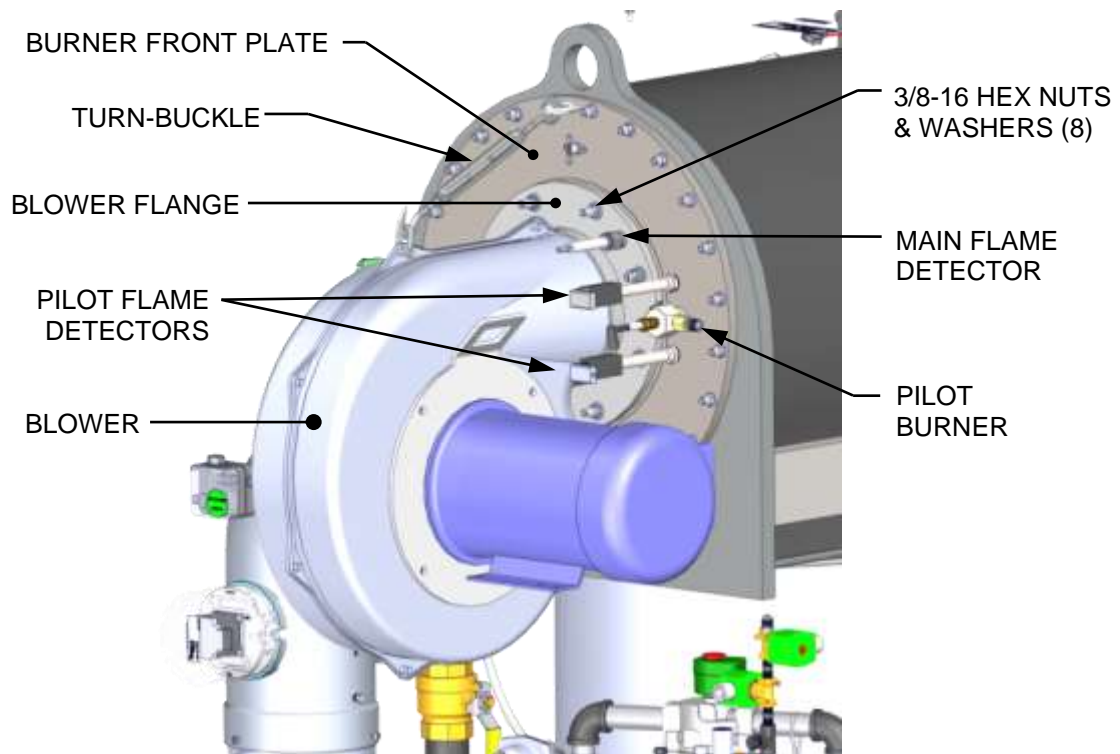
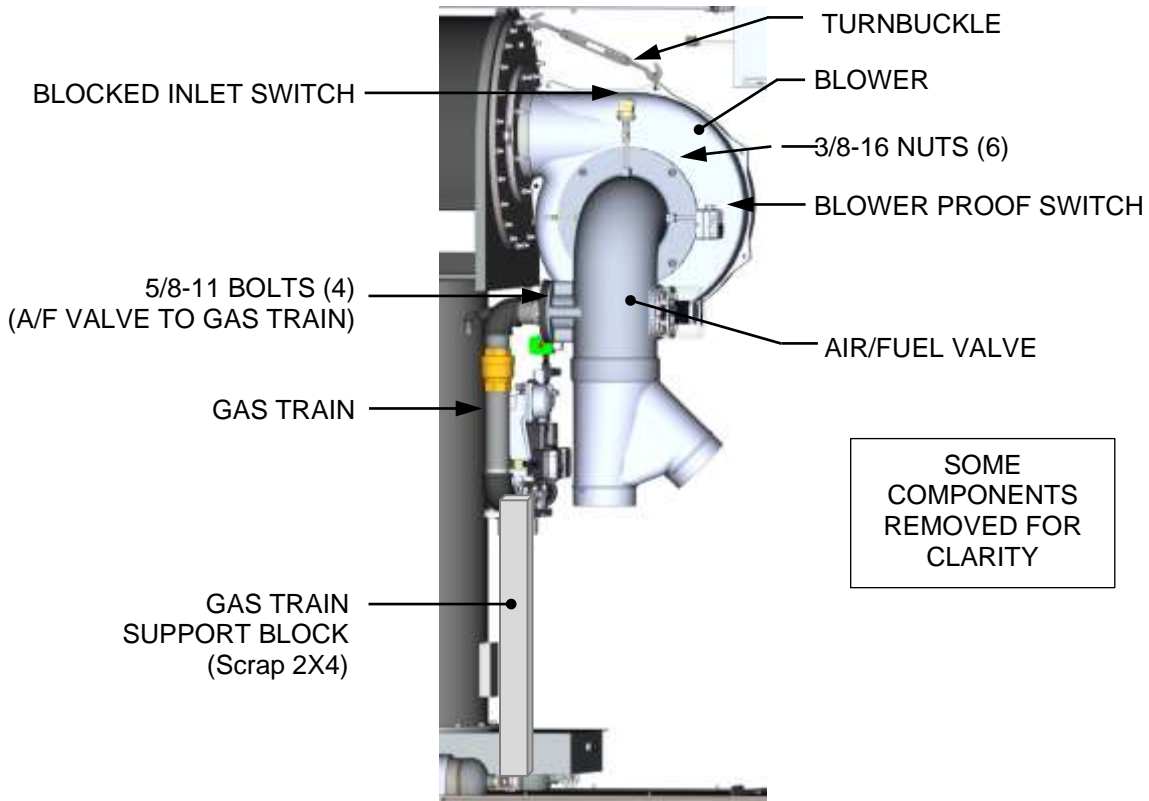

Figure 4-5a: Burner Assembly Mounting Details – Right-Front View
Figure 4-5b: Burner Assembly Mounting Details – Left Side View
<ol style="list-style-type: none"> 1. Set the C-More Controller's ON/OFF switch to the OFF position. Disconnect AC power from the unit and turn off the gas supply. 2. Remove the front panel, top panel and front side panels from the unit by grasping and lifting straight up and outward. This will expose the blower assembly for removal. 3. Remove the harnesses attached to the C-More Controller, remove 4 nuts (2 above and 2 below) from the C-More bracket and then remove the C-More and set it aside. 4. Disconnect the lead wire from the Main Flame Detector installed on the Blower Flange (Figure 4-1a, above). 5. Remove the Main Flame Detector from the Blower Flange. 6. Remove the Pilot sensors and observation ports from the Burner Plate (Figure 4-5a, below). 7. Disconnect the cable from the Pilot Burner by pulling straight out. 8. Using a 1/2" open-end wrench, disconnect the Pilot gas line from the reducer fitting and elbow shown in Figure 4-1a. Remove the reducer fitting and then the elbow from the Pilot Burner. 9. Next, loosen and remove the Pilot Burner from the Burner Plate using a 1-1/2" open-end wrench. 10. Remove the blower support turn-buckle (Figure 4-5a or Figure 4-5b). 11. Attach a hoist rig capable of lifting at least 300 pounds to the lifting lug on the blower fan housing. The Blower assembly weighs approximately 150-200 lbs. depending on which blower motor is installed. 12. Remove the two inlet air filters from the galvanized WYE-duct. 13. Disconnect the wires from the Blower Proof and Blocked Inlet switches (Figure 4-5b). 14. Disconnect the Molex connector from the temp sensor. 15. Place a support block of any appropriate material (such as a scrap 2X4 cut to length) under the gas train (see Figure 4-5b), and then remove the four 5/8-11 bolts & washers connecting the gas train to the Air/Fuel valve. 16. Remove the 6 3/8-16 nuts attaching the Air/Fuel valve to the Blower and then pull the Air/Fuel valve off and set it aside. 17. Loosen and remove the eight (8) 3/8" hex nuts and washers from the Blower Flange where it is attached to the Burner's Front Plate (see Figure 4-5a). 18. Remove the Blower from the Burner by pulling outward. Be careful not to allow it to swing